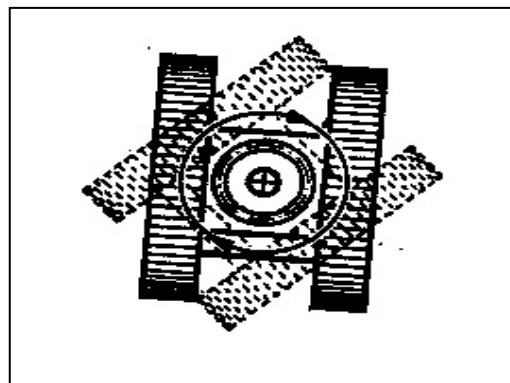

FIG.3-10
- Turn right (FIG. 3-10): Treadle right pedal 4 backwards and treadle left pedal 1 forward. (FIG. 3-6)